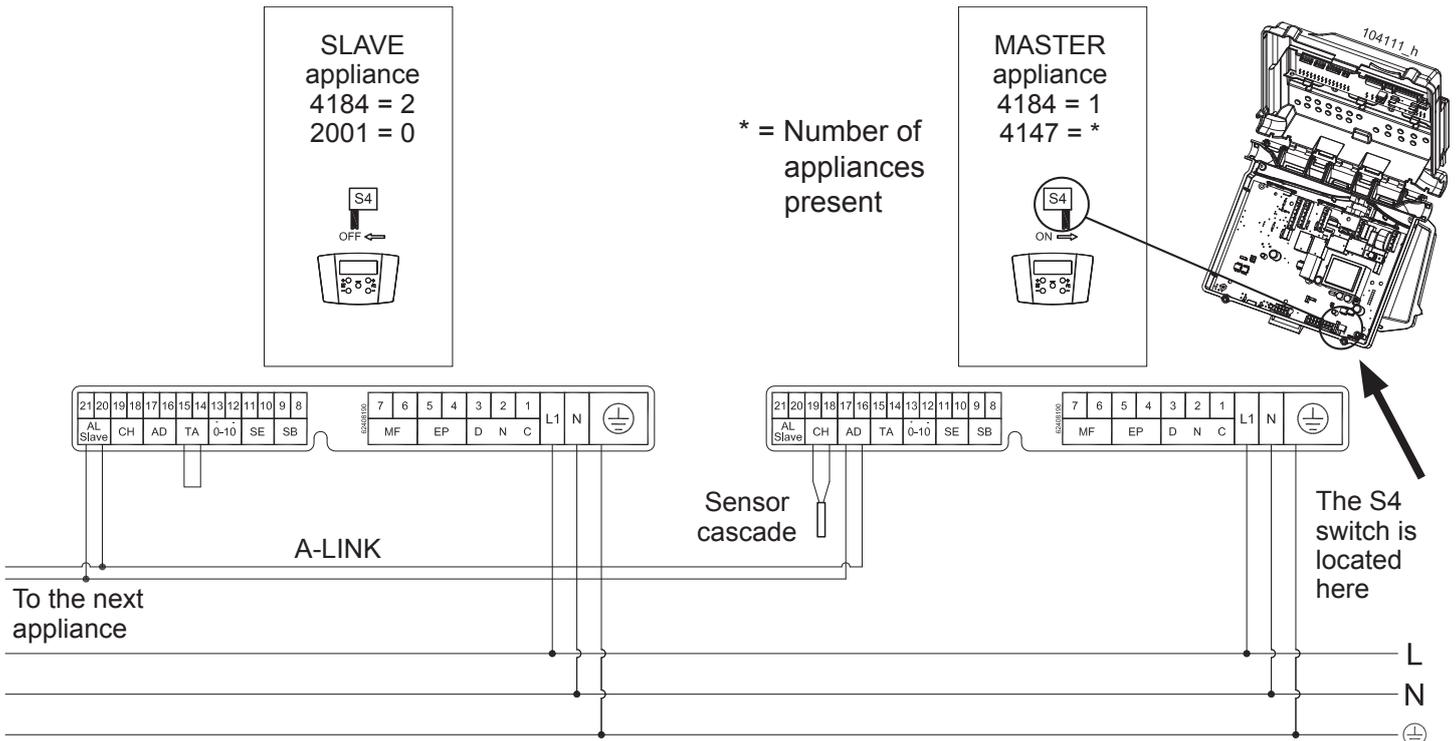

Figure 5-11 – Wiring diagram for appliances in a cascade
- 2 - Set up the electrical installation as shown in figure 5-11;
4 - On the "Master" unit, check that switch "S4" is in the ON position (see figure 5-11);
- 6 - On the "Slave" unit, move switch "S4" to the OFF position (see figure 5-11);